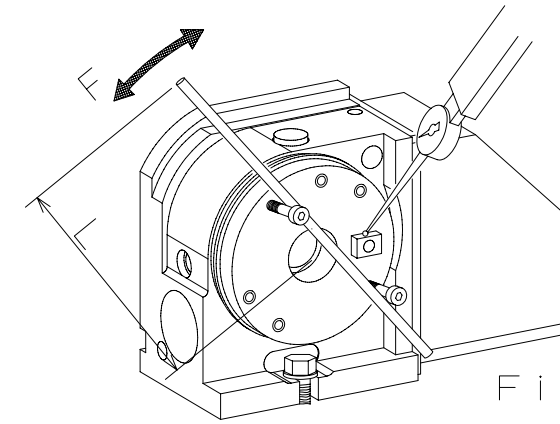

Fig. 2
8-1 Measuring the Backlash of the Worm Gear (See Fig.2.)
- 2) Turn the table slowly by using the tap on the surface of the table as shown in fig.2. And read the value of the dial gauge when tooth of the worm wheel makes contact with a worm shaft. At this time, the rotating torque added to the table is as follows. Then, rotate the table on the same conditions to the opposite direction. The difference of these measurements is the amount of backlash.